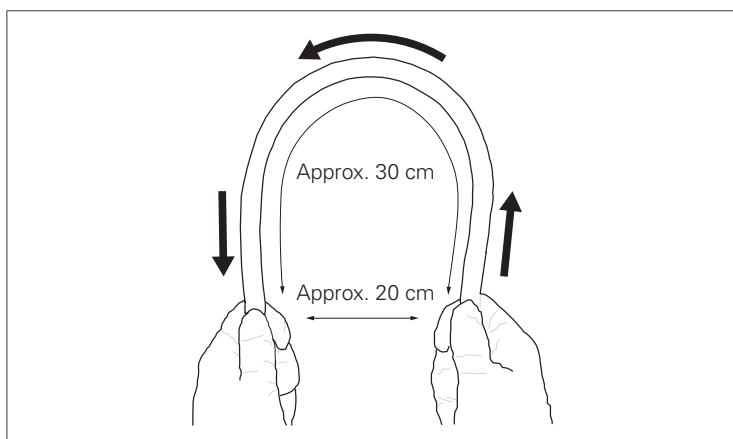

Figure 3.7
9. Using both hands, form an arch with the insertion tube as shown in Figure 3.7. Slide the insertion tube in the direction of the arrows in Figure 3.7, and check that the entire insertion tube can be bent smoothly and easily to form an arch.